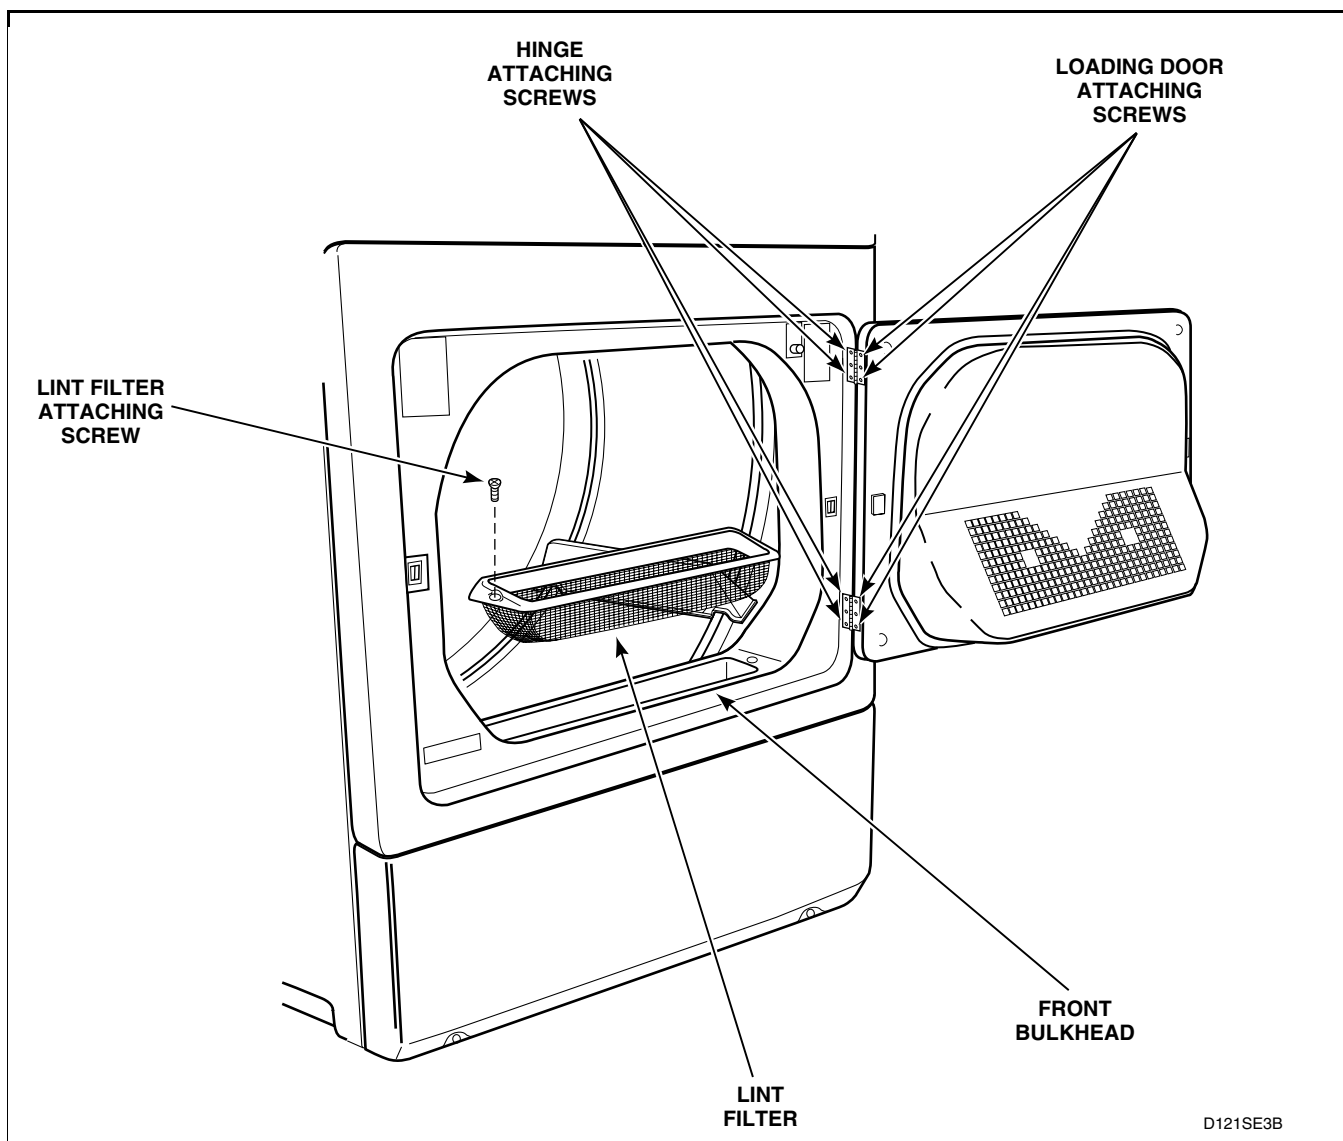

Figure 26
Refer to *Figure 26*
- Remove screws holding loading door and hinges to front panel. Refer to *Figure 26*.
- a. Remove four screws holding door assembly to hinges. Refer to *Figure 26*.